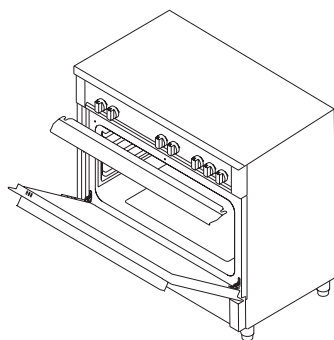

Figure 27
3. Place the safety panel under control panel by opening the oven front cover glass. (figure 27)